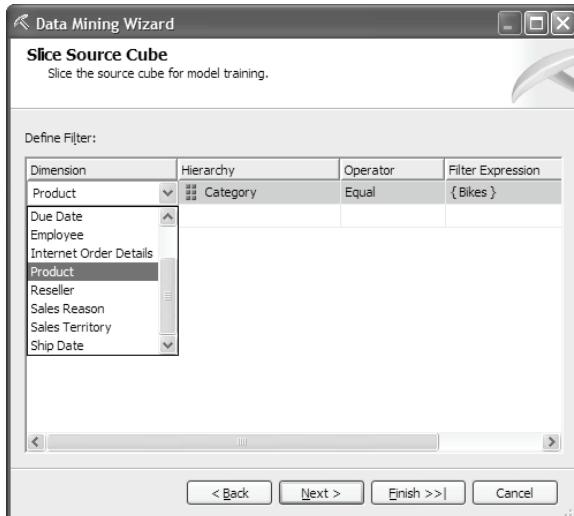

Figure 8.4 OLAP data mining allows you to slice the source cube.
- Just as you would use the SQL WHERE clause to limit data from a relational table, OLAP data mining allows you to apply a mining model to a subset of a cube called a *slice*. You can use any dimension to slice a cube. Suppose you are interested in profiling only customers who have purchased bikes. To do so, in the Slice Source Cube step, select the Product dimension and filter the Category attribute hierarchy members to *Bikes* (see Figure 8.4).